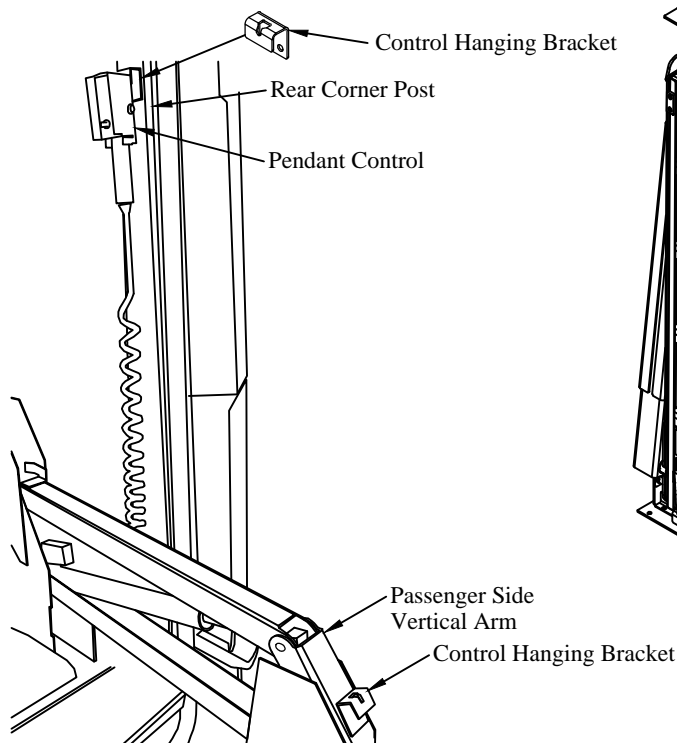

Figure 20: Control Hanging Brackets.
7. **Select** a location to install the control hanging bracket. Use a location on the passenger side rear corner post of the van at a height that allows the entire pendant cord to be completely inside the van when stored (Figure 20).
12. **Install** second control hanging bracket with supplied 3/8" bolts on the passenger side vertical arm where the lifting angle was removed (Figure 20).